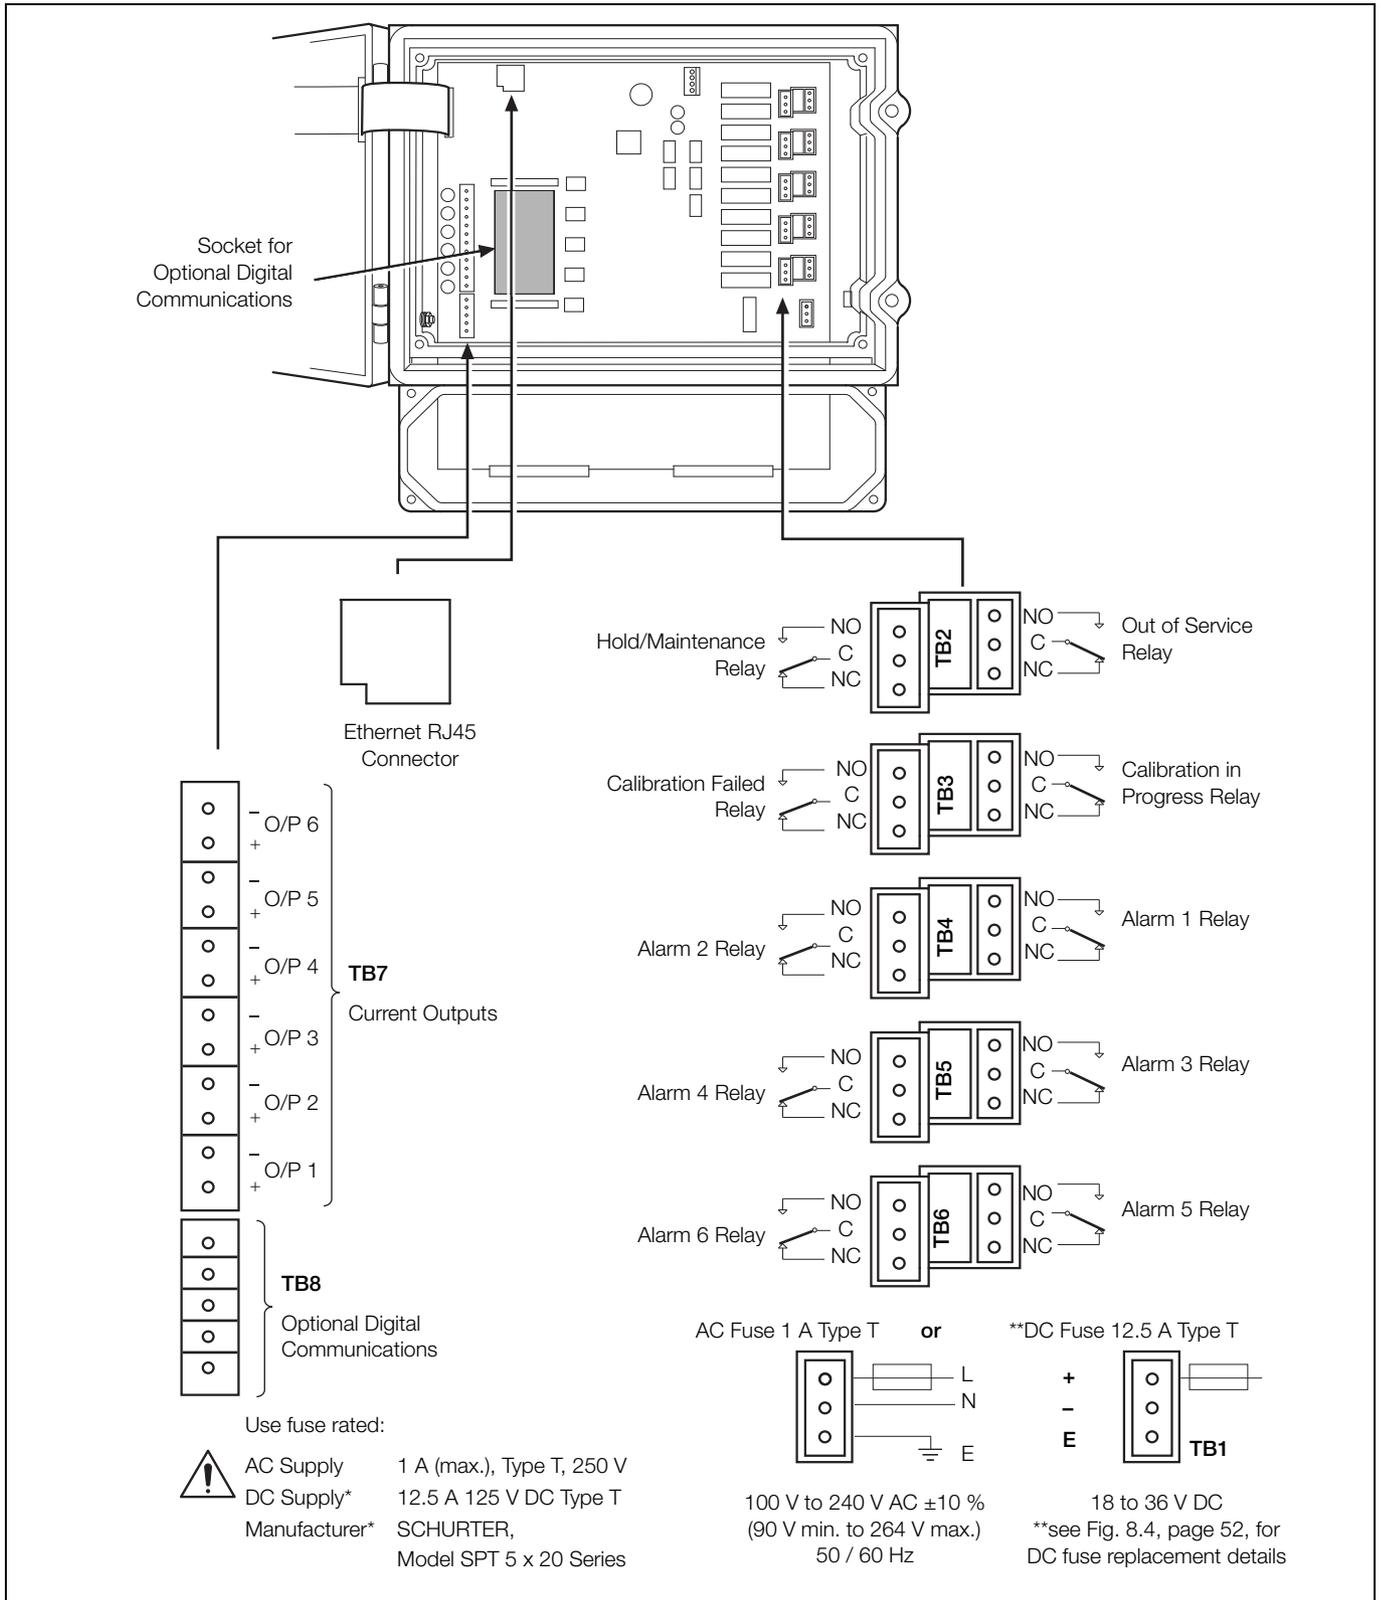
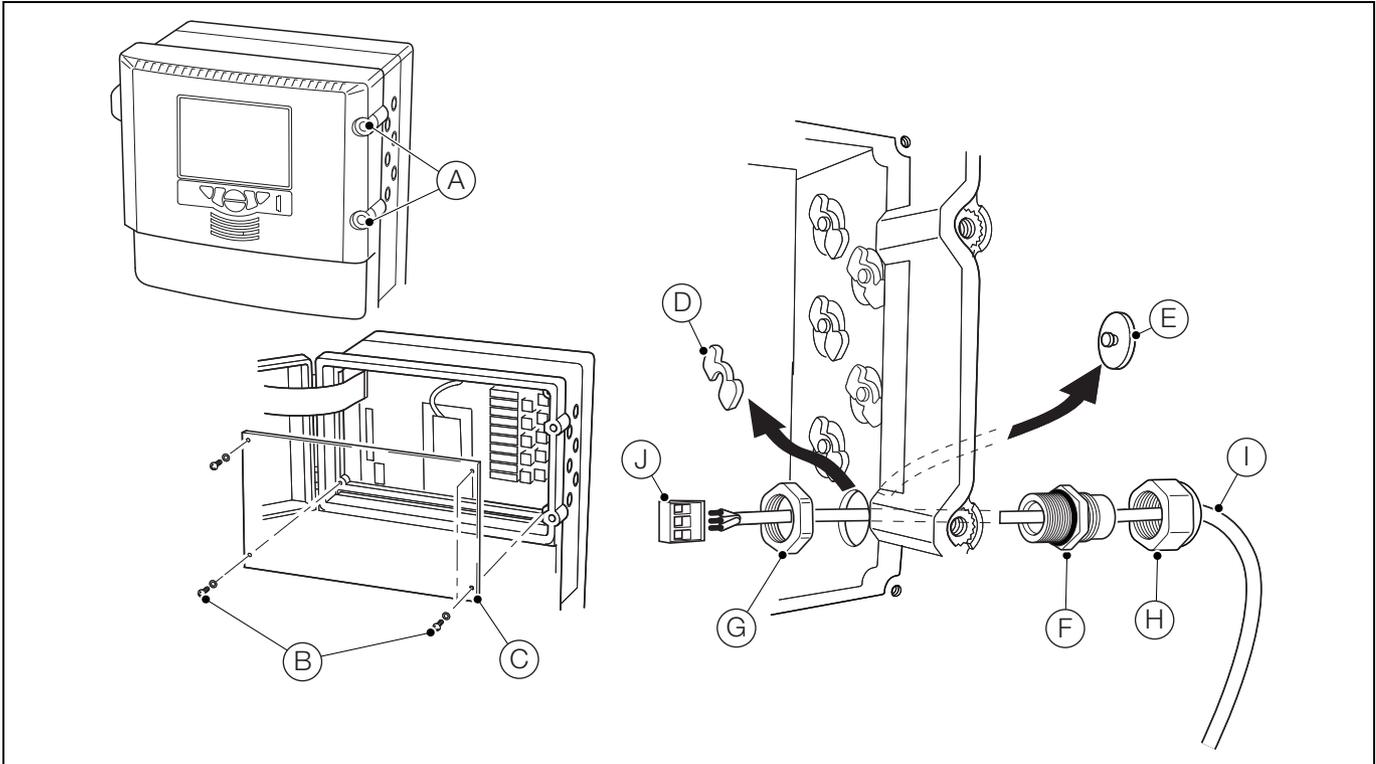
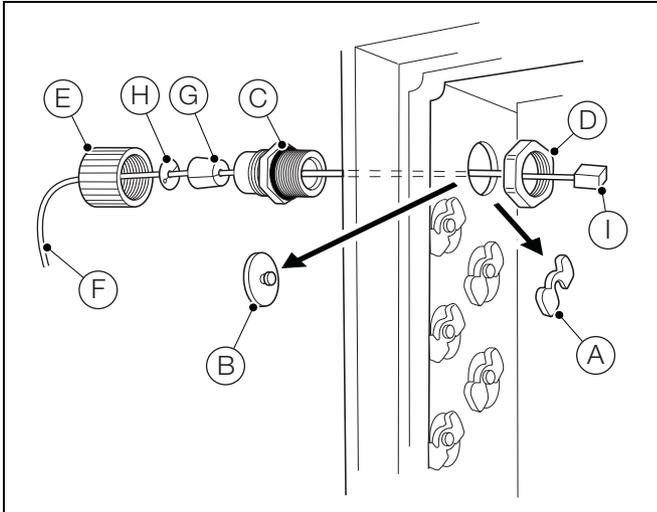

Fig. 4.8 Connections Overview
Fig. 4.9 Accessing and Making Electrical Connections
Fig. 4.10 Ethernet Connections
- Ensure the correct fuses are fitted – Fig. 4.8, page 19, for fuse details.
- Application board connection labels for the terminal blocks are identified in Fig. 4.8, page 19.
Referring to Fig. 4.9:
1. Turn door retaining screws (A)  $\frac{1}{4}$  turn counter-clockwise and open the electronics section door.
2. Using a cross-head screwdriver, remove 4 screws (B) and remove transparent cover plate (C).
3. For each cable entry required, slide retaining clip (D) off blanking plug (E) and remove the plug.
4. Fit cable gland (F) and secure using nut (G).
5. Remove gland nut (H) and feed cable (I) through it.
6. Feed the cable through cable gland (F) and into the electronics section enclosure.
7. Remove each connection plug (J) and, using a small flat-bladed screwdriver, make connections to the plug. Ensure wires are connected to the correct terminals – see Fig. 4.8, page 19.
9. Tighten gland nut (H) for each connection made.
11. Replace transparent cover plate (C) and secure with 4 screws (B).
12. Close the electronics section door and turn door retaining screws (A)  $\frac{1}{4}$  turn clockwise to secure.
1. Referring to Fig. 4.9:
- a. Turn door retaining screws (A) 1/4 turn counter-clockwise and open the electronics section door.
- b. Using a cross-head screwdriver, remove 4 screws (B) and remove transparent cover plate (C).
2. Referring to Fig. 4.10:
- a. Slide retaining clip (A) off blanking plug (B) and remove plug.
- b. Fit cable gland (C) and secure using nut (D).
- c. Remove gland nut (E) and feed cable (F) through it.
- d. Fit split-bush (G) and split-washer (H) to cable (F).
- e. Feed the cable through cable gland (C) and into the electronics section enclosure.
- f. Plug RJ45 connector (I) into the RJ45 socket on the application board (see Fig. 4.8, page 19 for location details) and tighten gland nut (E).
3. Referring to Fig. 4.9:
- a. Replace transparent cover plate (C) and secure with 4 screws (B).
- b. Close the electronics section door and turn door retaining screws (A) 1/4 turn clockwise to secure.